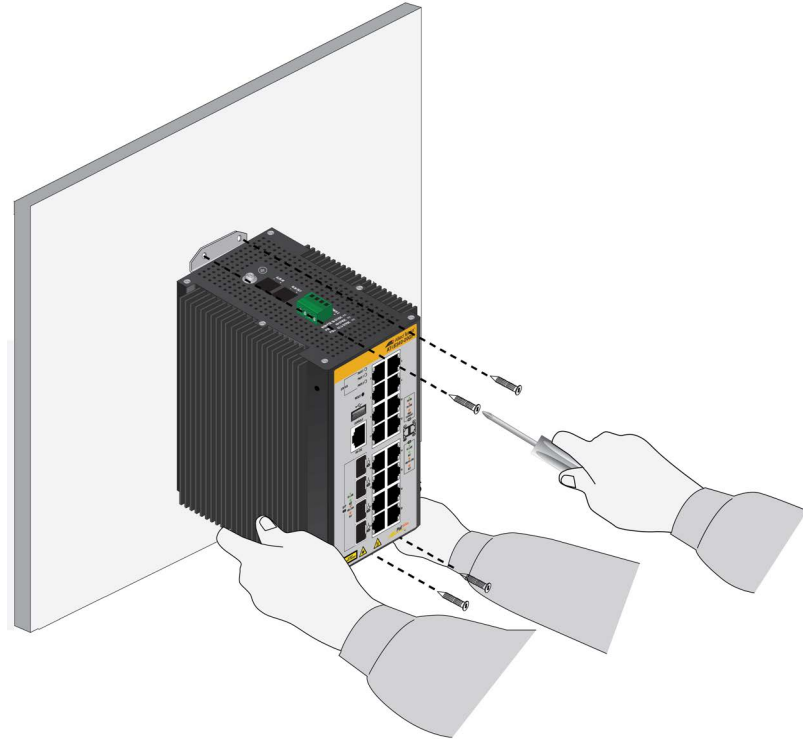

Figure 34. Installing the Switch on a Concrete Wall
9. Have another person hold the switch at the selected wall location while you secure it with four screws (not provided). Refer to Figure 34 on page 84.